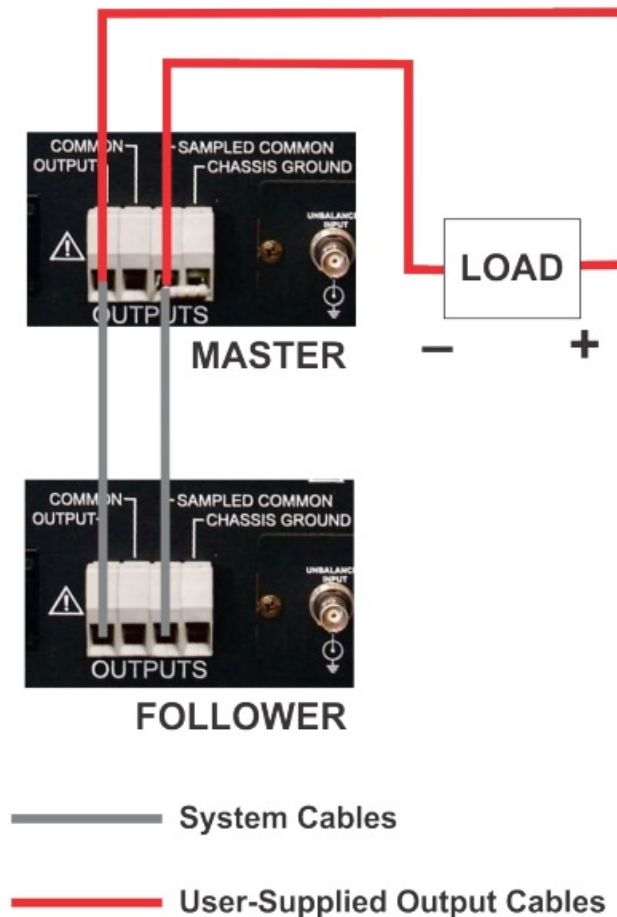

Figure 2.10 – Connecting the load
2. Locate the four-position terminal barrier block on the back panel of the Master amplifier module (see Figure 2.10). Connect the negative terminal of the load to the SAMPLED COMMON terminal.